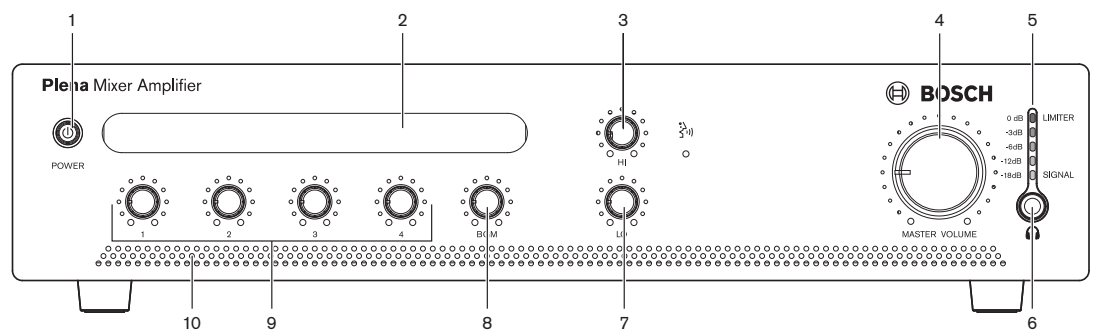

Figure 8.1 Front panel
1. Set the power button (1) on the front of the unit to On - pushed in (see *Figure 8.1*).
1. Set the power button (1) on the front of the unit to Off - popped out (see *Figure 8.1*).
Use the Hi (high) and Lo (low) tone controls (see *Figure 8.1*, numbers 3 and 7) to change the tone.